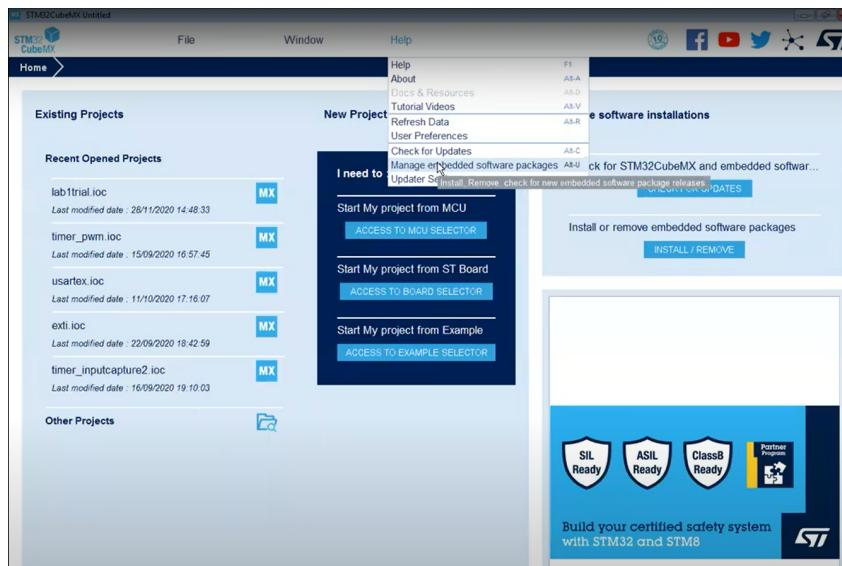

Figure 2
1. First, open the CubeMX program. Select “Embedded software packages” from the Help menu (Figure 2).